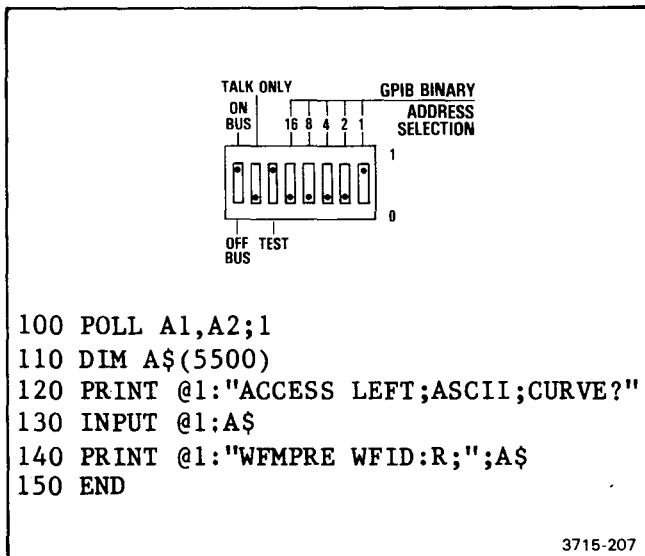

Figure 2-7. Operators GPIB checkout setup and program.
53. Set the 5223 rear-panel GPIB Address Selection switches as shown in Figure 2-7.
54. Enter the program shown in Figure 2-7 into the 4050-series controller.